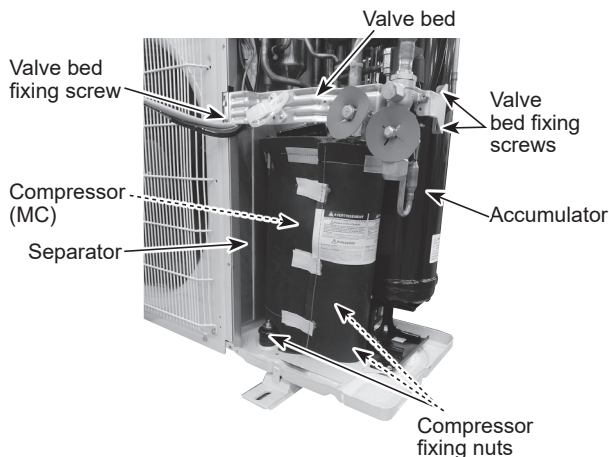

Figure 3
8. Remove the side panel (R). (Refer to procedure 6-7)
9. Remove 3 separator fixing screws (4 × 10) and remove the separator. (See Figure 3)